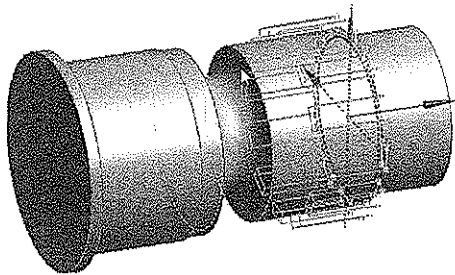

Figure 5-72 Selecting the face as the extent
18. Rotate the model to the position, as shown in Figure 5-72. Next, click on the **Target Faces** selection box in the **Details View** window; the **Apply** and **Cancel** buttons are displayed in it.
19. Next, select the face shown in Figure 5-72.
After the extrude feature is created, it is now required to create the three sections for the loft feature, refer to Figure 5-72.